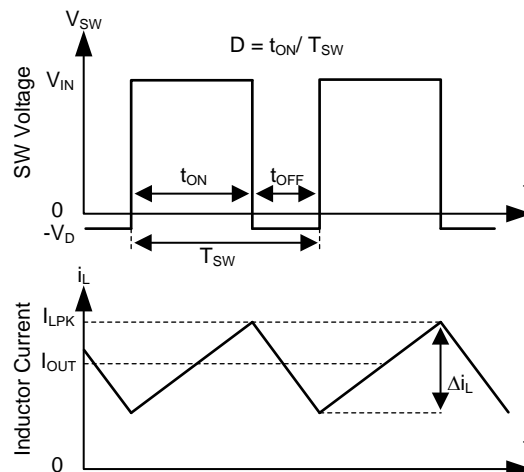

Figure 13. SW Node and Inductor Current Waveforms in Continuous Conduction Mode (CCM)
The following operating description of the LMR23610-Q1 will refer to the Functional Block Diagram and to the waveforms in Figure 13. LMR23610-Q1 is a step-down synchronous buck regulator with integrated high-side (HS) and low-side (LS) switches (synchronous rectifier). The LMR23610-Q1 supplies a regulated output voltage by turning on the HS and LS NMOS switches with controlled duty cycle. During high-side switch ON time, the SW pin voltage swings up to approximately V_{IN} , and the inductor current i_L increase with linear slope $(V_{IN} - V_{OUT}) / L$. When the HS switch is turned off by the control logic, the LS switch is turned on after an anti-shoot-through dead time. Inductor current discharges through the LS switch with a slope of $-V_{OUT} / L$. The control parameter of a buck converter is defined as Duty Cycle $D = t_{ON} / T_{SW}$, where t_{ON} is the high-side switch ON time and T_{SW} is the switching period. The regulator control loop maintains a constant output voltage by adjusting the duty cycle D . In an ideal buck converter, where losses are ignored, D is proportional to the output voltage and inversely proportional to the input voltage: $D = V_{OUT} / V_{IN}$.